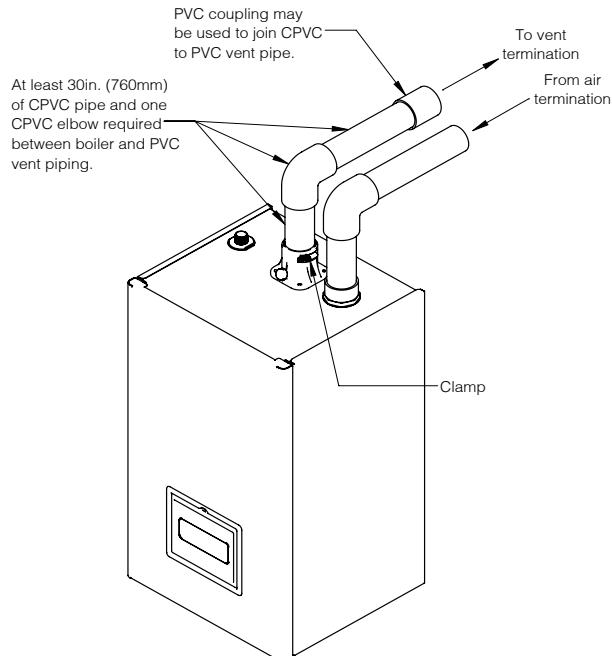

Figure 7-12: Near Boiler CPVC/PVC Venting
5. Starting from the boiler, first 30 in. (760 mm) of vent pipe and first elbow must be CPVC. 30 in. (760 mm) CPVC pipe may be cut at any location and CPVC elbow installed between two resulting CPVC pipes before transitioning to PVC. PVC coupling may be used to join CPVC to PVC vent piping. See Figure 7-12.